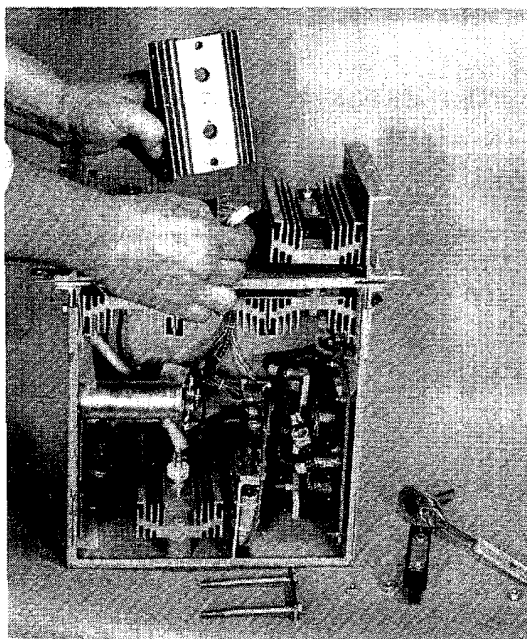

FIGURE 16
7. Remove the two clamp nuts that secure the defective SCR, while supporting the bottom heatsink and clamp with one hand underneath the heatsink assembly. See Figure 16.